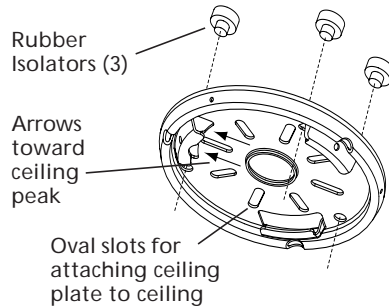

Figure 2b - Correct Position of Ceiling Plate for Angle Mounting and location of rubber isolators.
2. Insert the 3 rubber isolators into the 3 round holes in the ceiling plate as shown in Figure 2b. Thread the lead wires from the outlet box through the opening in the middle of the ceiling plate.
3. Align two opposing oval slots in the ceiling plate with the pilot holes in the wood support structure. See Figure 2b.
For Angle Mounting be sure to orient the Ceiling Plate so that the arrows marked on the plate are pointing towards the ceiling peak. See Figure 2b.
4. Hold the Ceiling Plate up to the ceiling and align two opposing oval slots in the Ceiling Plate with the expansion anchors. See Figure 2b. Be sure that the electrical mains protrude through the center opening in the Ceiling Plate by at least 150 mm.